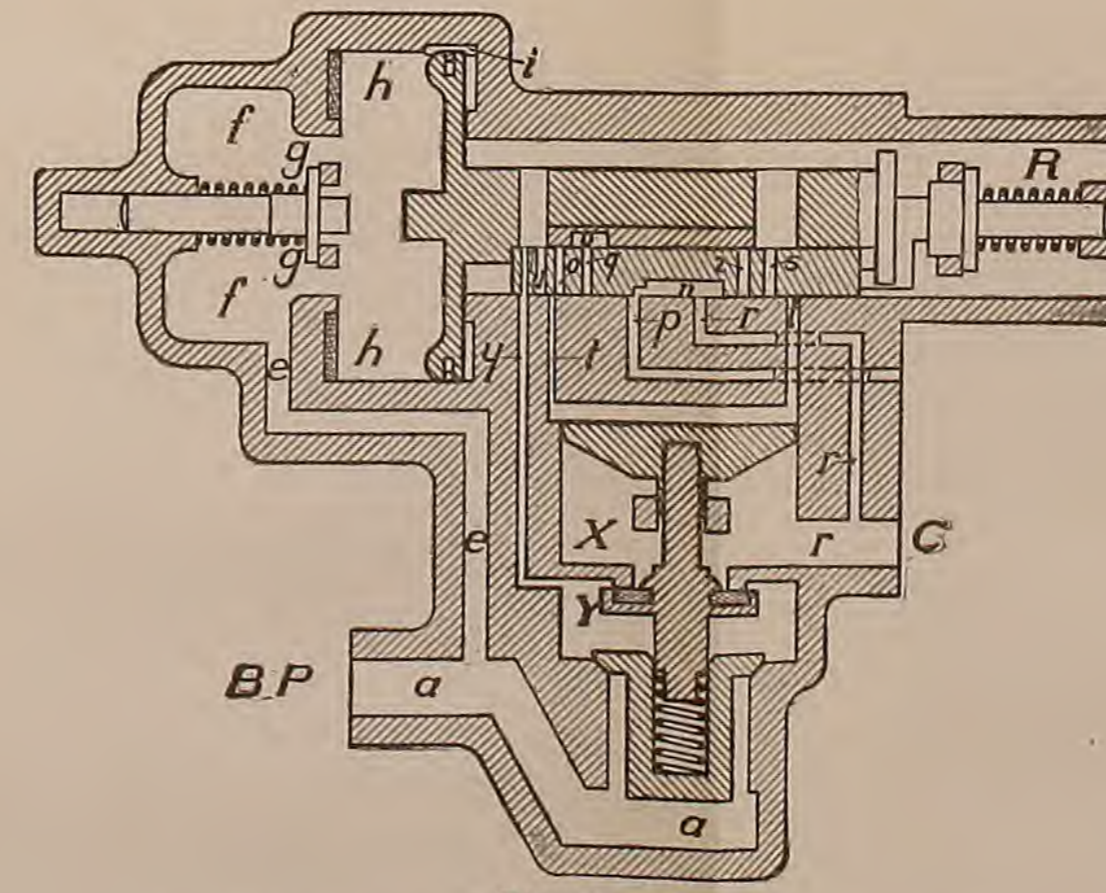

Fig. 127.
Q. What is shown in Fig. 127?
A. Fig. 127 represents the different parts of the *K* triple in the Retarded Release position.